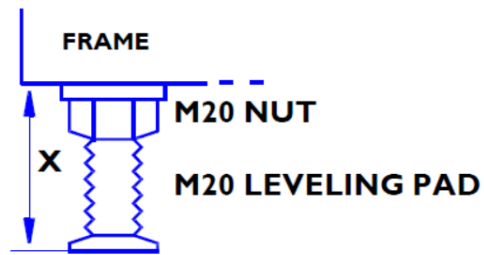

FIGURE 3.6 LEVELING PAD
1. Adjust the leveling pad with a maximum of $X=15$ cm. See Figure 3.6.